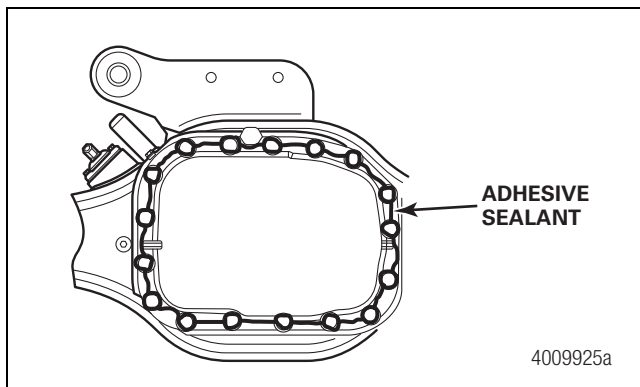

Figure 5.1
5. Apply a 0.25-inch (6 mm) continuous bead of Loctite® 5101 adhesive sealant or other silicone gasket material to the mounting surface of the housing. Figure 5.1.